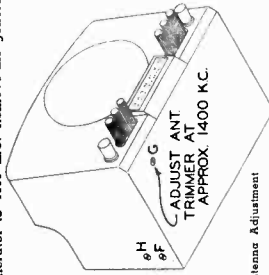

Fig. 4. Antenna Adjustment
**B.F.** — The tuning condenser is rotated until the plates are completely out of mesh (1580 K.C.) Set the signal generator to 1580 K.C. Remove the generator leads from the R.F. tube, remove the .1 mfd. condenser from the leads, and connect the leads to a Zenith dummy antenna, part No. S-7894 to the antenna socket on the receiver. The high frequency oscillator trimmer F (See Fig. 4) is then pecked for maximum response on the output meter. Reset the signal generator to 1400 K.C., rotate the tuning control until a signal is heard, and adjust the 1400 antenna trimmer G (Fig. 4) for maximum response. Reset the signal generator to 600 K.C. and rotate the tuning control until a signal is heard. The condenser gang is then rocked slightly when adjusting the 600 K.C. oscillator podder H (see Fig. 4) to maximum resonance on the output meter.